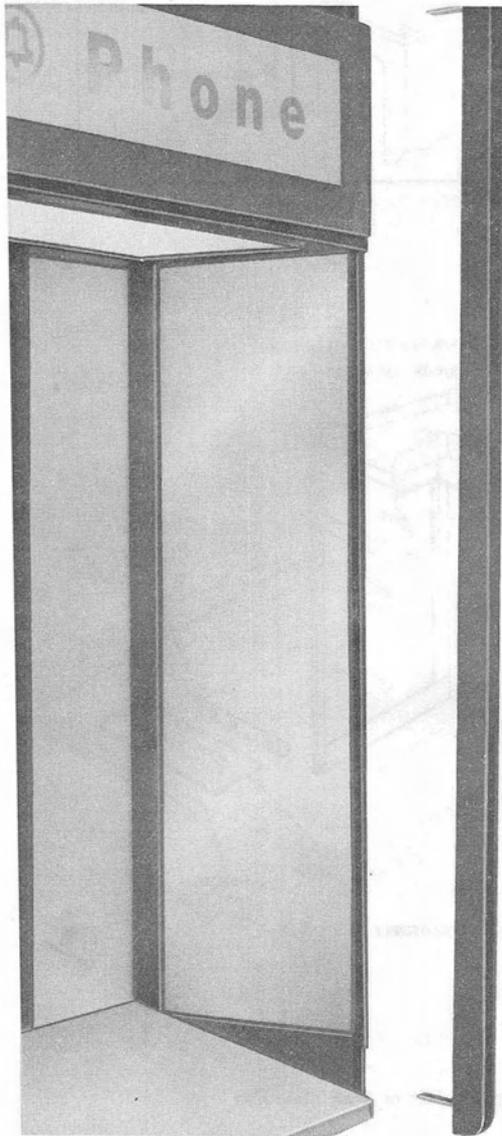

Fig. 37—Removal of Front Vertical Rail from List 35 Housing
- (1) Using a KS-19192, List 1 wrench, remove two security screws from each top rail and two from each bottom rail that secure front vertical rail. Remove front rails (Fig. 37).